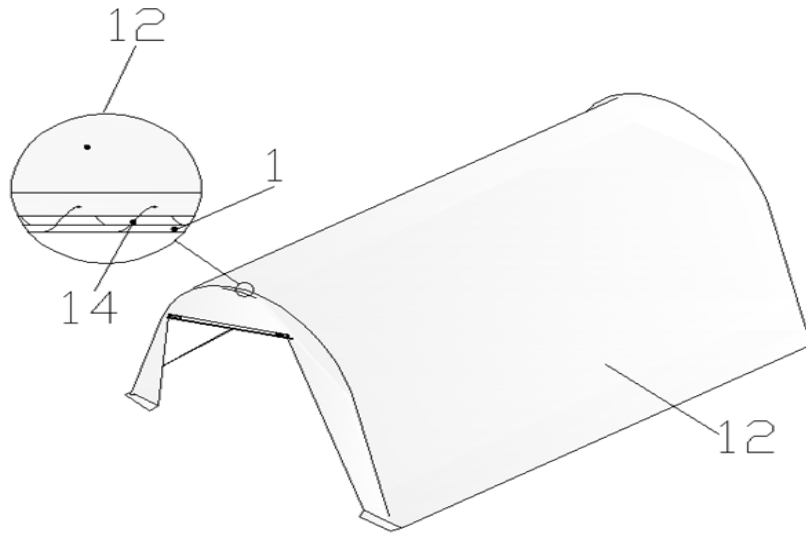

Figure 9
- Pull and stretch the cover enough only to take wrinkles out. Do not over stretch as it could rip off the grommets (Figure 9).